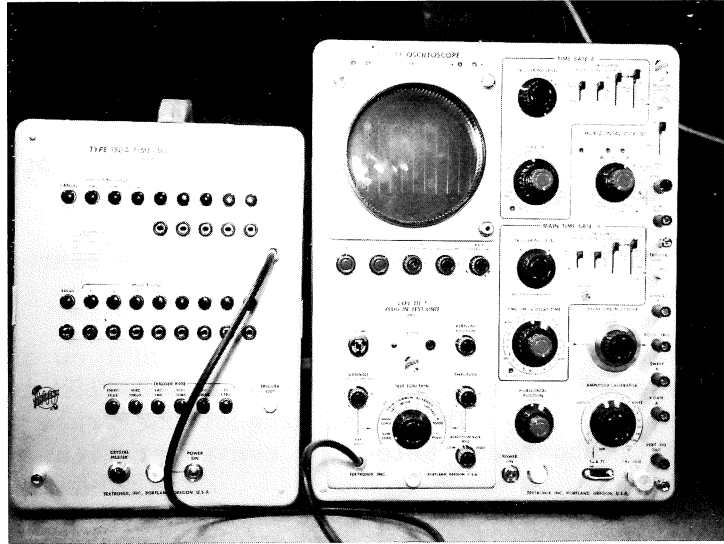

Figure 11
1. Apply 1 msec and 100 μ sec markers from Type 180 to the TU-7. Adjust VARIABLE (TU-7) for 6 cm of vertical deflection. (See Fig. 11)